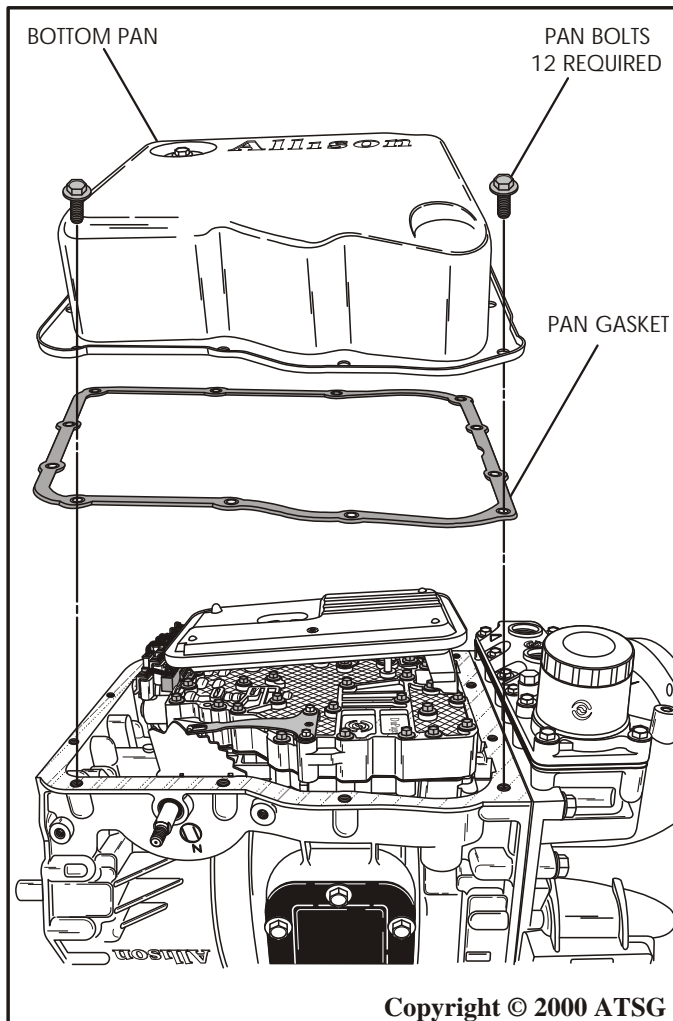

Figure 46
8. Rotate the transmission in the fixture so that the oil pan is facing up (See Figure 46).
9. Remove the twelve bottom pan retaining bolts, using a 13 mm socket (See Figure 46).
10. Remove the bottom oil pan (See Figure 46).
11. Remove and discard the bottom pan gasket, as shown in Figure 46.